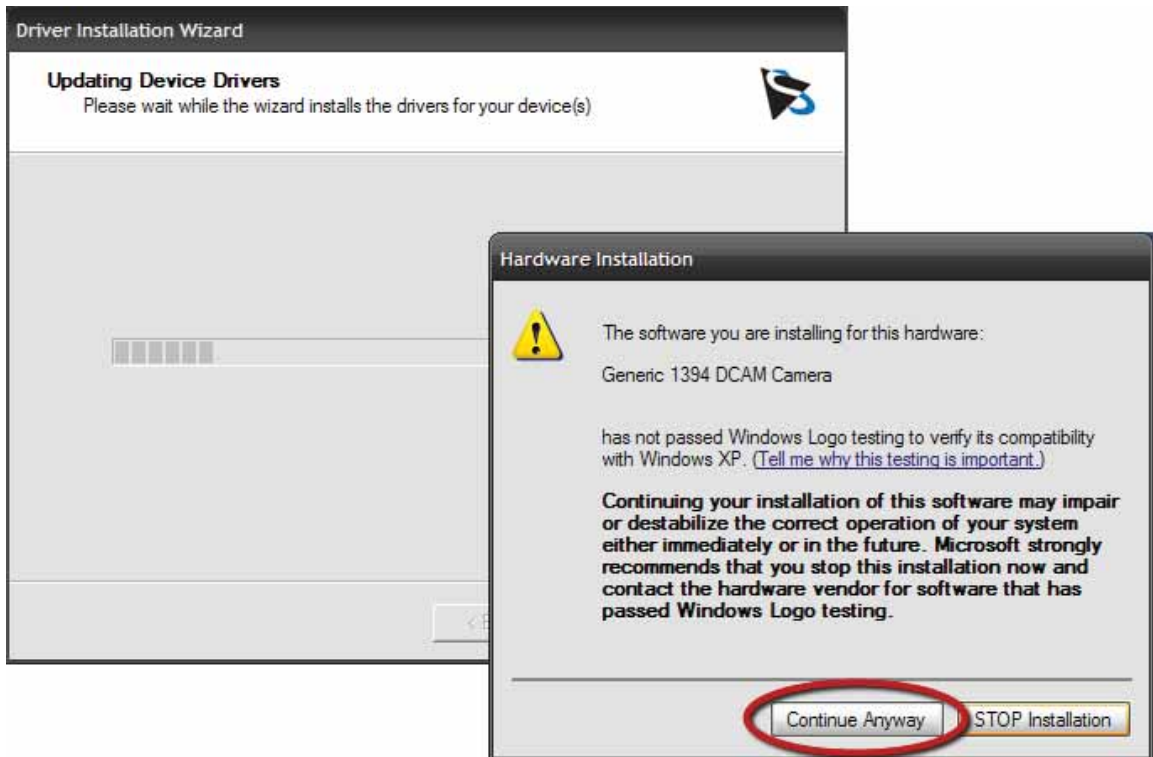

Fig. 5-19
9. Click the **NEXT** button to install the driver of the video camera. In the **Hardware Installation** window, click the **Continue Anyway** button (Fig. 5-19).